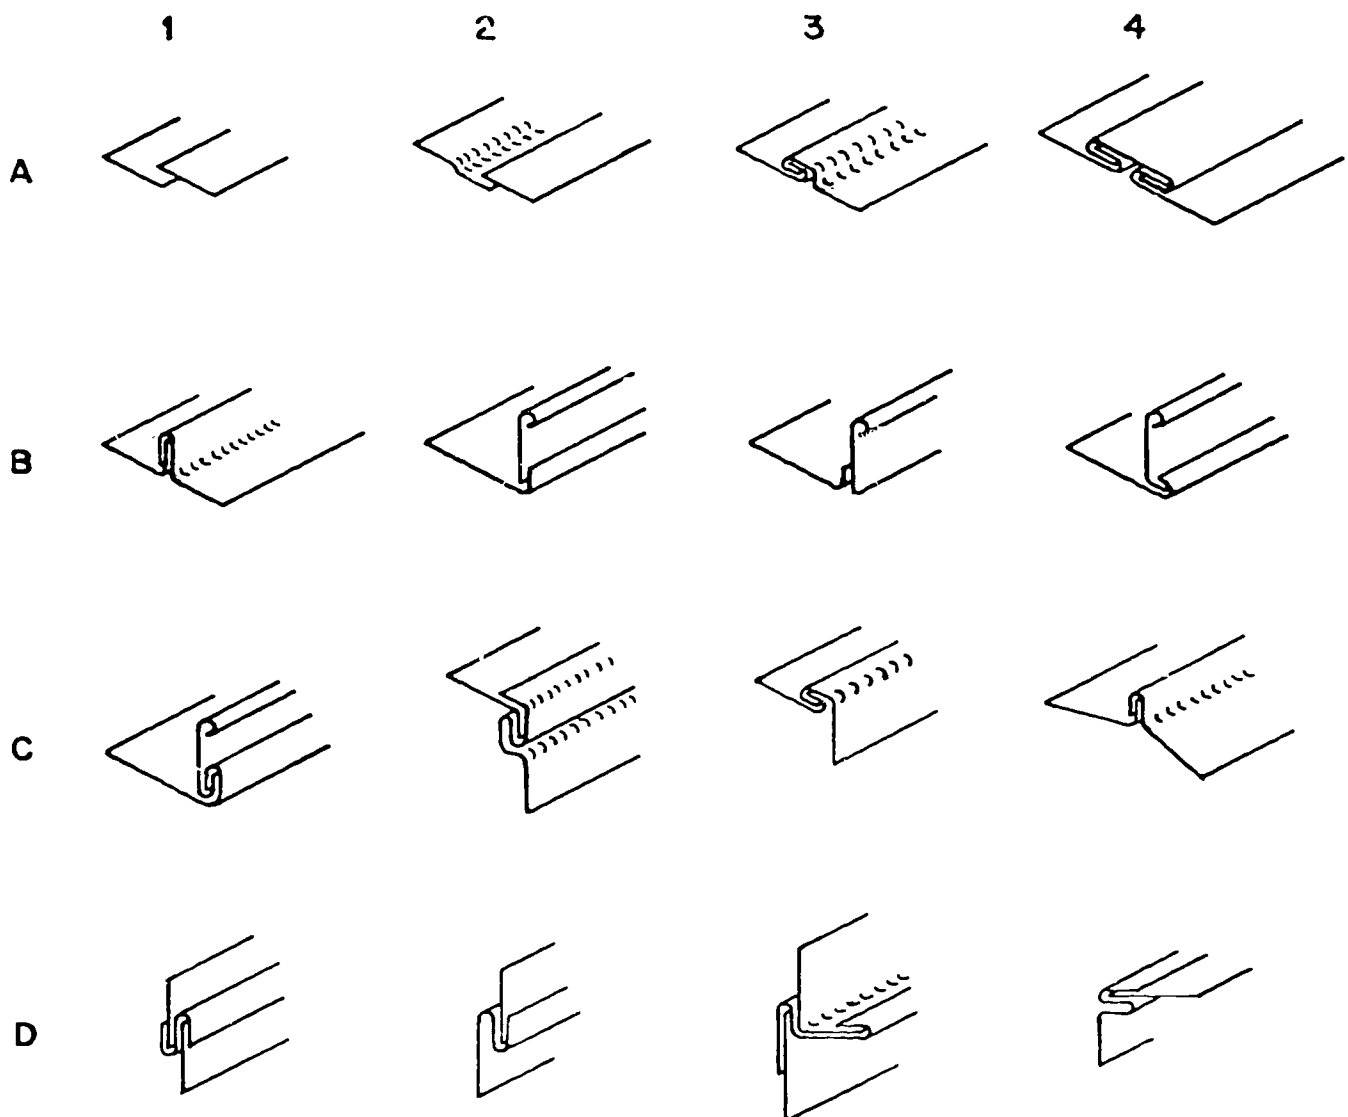

Figure 2-1. Sheet metal seams.
The next several seams are shown in figure 2-1 and will be referred to by a letter and number.
**Inside and outside corner lap seams.** Inside corner lap seams and outside corner lap seams, such as those illustrated in B-2,3, (fig. 2-1), are used on any gage of
**Standing Seam.** Standing seams are used in several different ways in fabricating sheet metal components. In B-1 and C-4 (fig. 2-1 two views show you how the two parts are assembled. B-1 shows the seam on a flat surface and C-4 shows it on an angle (Roof Ridge). Although used primarily to join two pieces of sheet metal, the standing seam also acts as a stiffener because the metal is folded three times. Standing seams are sometimes used to connect joints of rectangular duct, to stiffen the long joints across the top and bottom of long ducts, to install covers over the ends of ducts, and to connect the corners of exhaust hoods over kitchen stoves.
**Grooved Seam.** A grooved seam is shown in A-3 (fig. 2-1). Note how it resembles a standing seam that has been bent over and then shaped with a hand groover. One of the main uses for grooved seams in duct construction is to join the edges of round duct joints. Grooved seams are also used for joining sheets of metal roofing and for seams not located in the corners of rectangular ducts. In the following paragraphs we will describe how grooved seam allowances are determined and how the seams can be made with a Pittsburgh lock-forming machine or with a bar folder and handtools.
**Pittsburgh Lock Seam.** The Pittsburgh lock seam, shown in C-2 (fig. 2-1), is most often used along one edge or corner of a rectangular duct and on all four sides of such fittings as transitions and elbows. The Pittsburgh lock seam is made in two parts. The flanged edge is usually formed on a cornice brake or on a bar folder if the point is straight. However, if a rectangular-shaped
lower the top leaf to form a tighter 180° bend. The seam will need to be offset; do this by turning the metal over in the cornice brake and lowering the top leaf until a groove is formed. The final step in making the pocket side of the Pittsburgh lock seam is to strike the folded metal with a mallet until the edges are parallel, as illustrated in the lower part of C-2 (fig. 2-1).